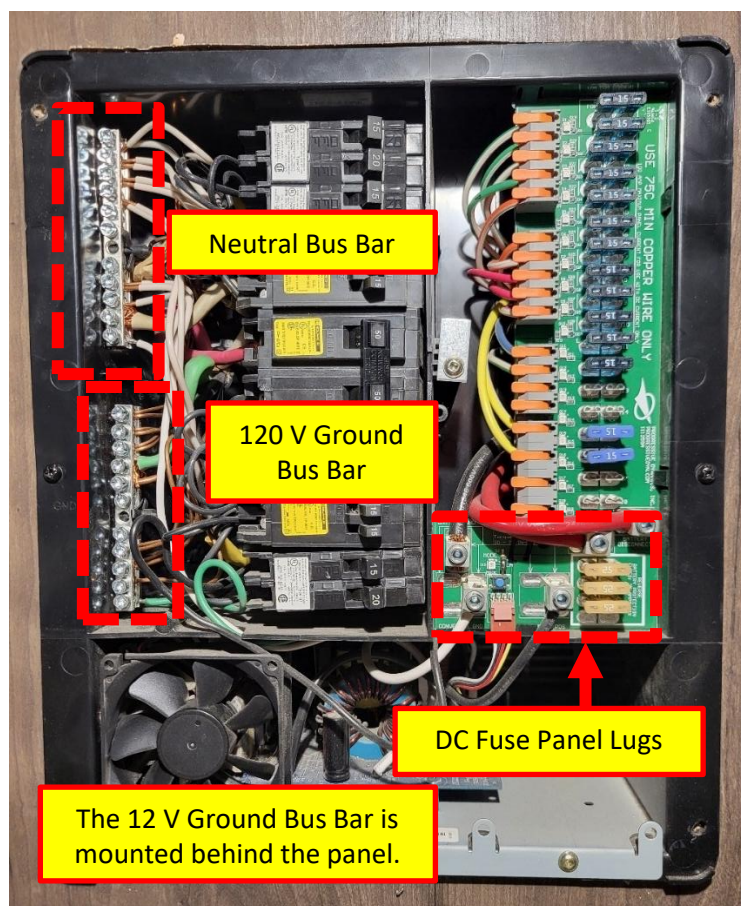

Figure 73. Progressive Dynamics Power Control Center with the safety cover removed. The converter is shown at the bottom, where the fan is.
4. Remove the power distribution center cover panel, exposing all ground and neutral bars for both AC and DC sides of the panel. See Figure 73.